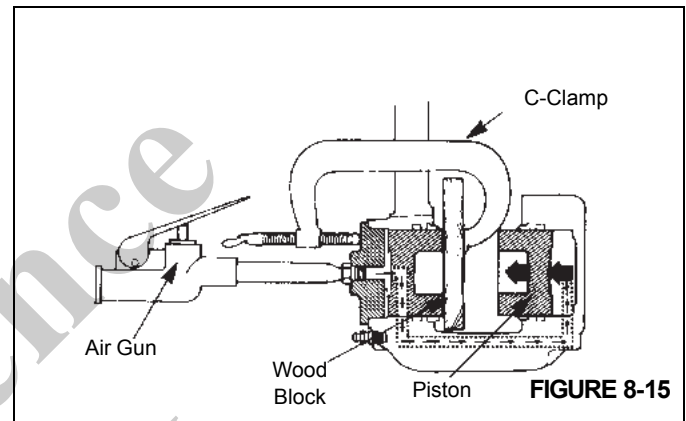

FIGURE 8-15
- b. Apply compressed air to the inlet fitting to force the pistons out of the other housing. If one piston comes out before the other piston, put a piece of wood in front of the piston that comes out first. Apply compressed air to force the other piston out of the housing. Refer to Figure 8-15.